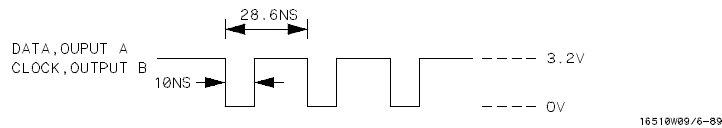

Figure 3-12. Pulse Generator Waveform For Test 2
- Set the pulse generator as follows for the output shown in figure 3-12.